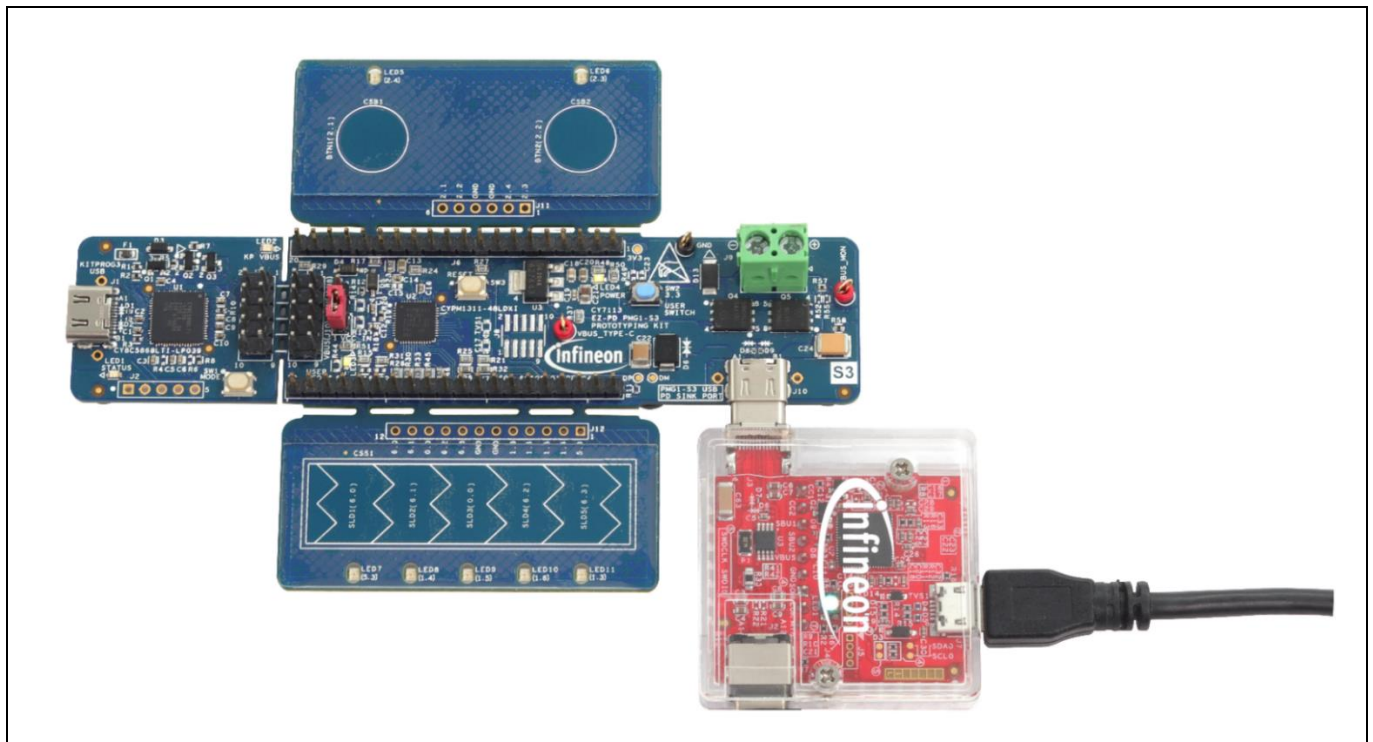

Figure 11 Setup for operating CY4500-EPR EZ-PD™ Protocol Analyzer
3. Verify that the setup looks similar to the image shown in Figure 11.